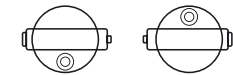

Figure 6
a) Adjust the lifting screws to center the bubble vial and rotate the telescope by  $180^\circ$ . The bubble vial should remain in the center (Figure 6).